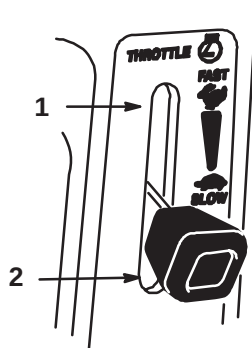

Figure 4
5. Move throttle lever to **fast** (Fig. 4).
7. After the engine starts, move the choke lever to **off**. Slowly move the throttle to the desired setting (Fig. 4). If the engine stalls or hesitates, move the choke lever back to **on** for a few seconds. Then move the throttle lever to desired setting. Repeat this as required.
2. Move the throttle lever to **slow** (Fig. 4).